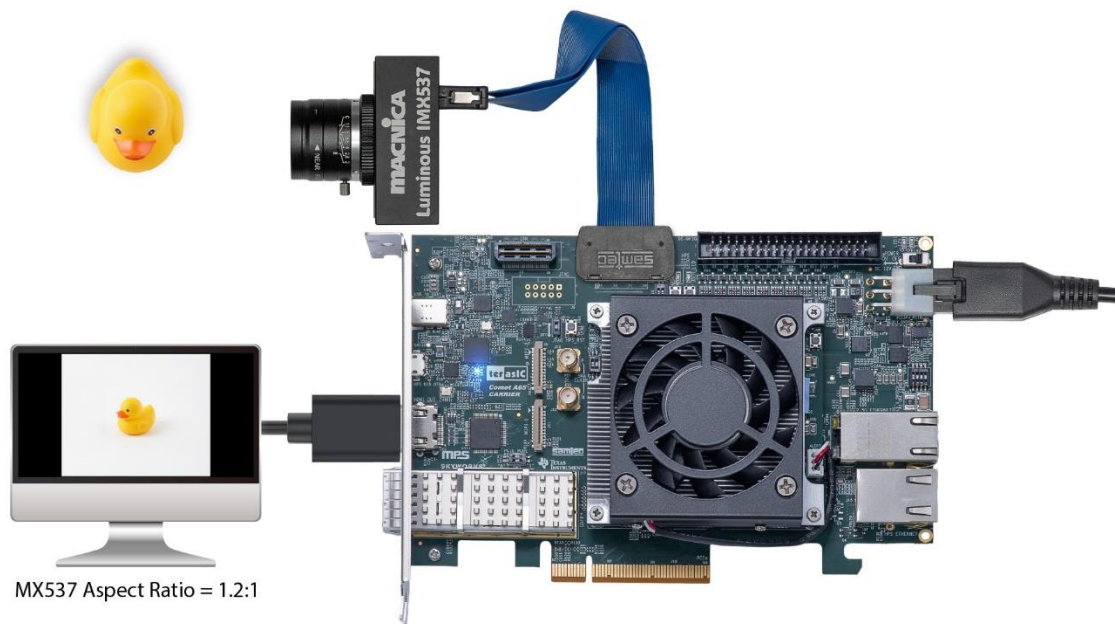

Figure 2-31 SLVS_EC_RX_to_HDMI_IMX537 demo test
- Once the configuration is completed, the video will be displayed, as shown in **Figure 2-31**.